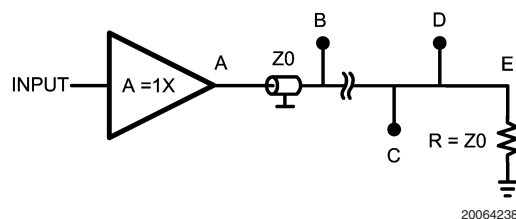

FIGURE 2.
- Use one buffer to drive to multiple points on one transmission line (see *Figure 2*)
Another transmission line possibility is to route the trace via several points along a transmission line (see Figure 2). This is only possible if care is taken to observe certain restrictions. Failure to do so will result in impedance discontinuities that will cause distortion of the signal. In the configuration of Figure 2 there is a transmission line connected to the buffer output and the end of the line is terminated with Z_0 . We have seen in the section 'Connecting a load using a transmission line' that for the condition above, the signal throughout the entire transmission line has the same value, that the value is the nominal value initiated by the opamp output, and no reflections occur at the end point. Because of the lack of reflections no interferences will occur. Consequently the signal has every where on the line the same amplitude. This allows the possibility of feeding this signal to the input port of any device which has high ohmic impedance and low input capacitance. In doing so keep in mind that the transient arrives at different times at the connected points in the transmission line. The speed of light in vacuum, which is about 3×10^8 m/sec, reduces through a transmission line or a cable down to a value of about 2×10^8 m/sec. The distance the signal will travel in 1ns is calculated by solving the following formula: